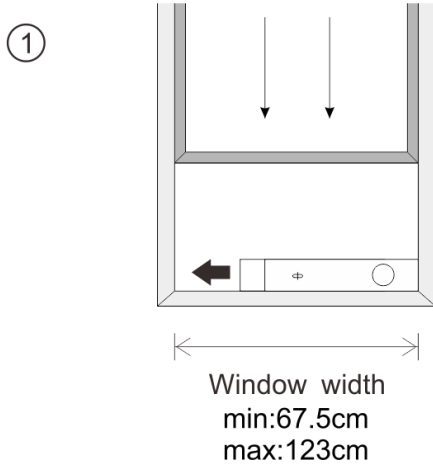

Fig.10
The installation manner of window slider kit is mostly in “horizontal” and “vertical”. As shown Fig.10 and Fig.10a, check the min. and max. size of the window before the installation.
1. Install the window kit on the window (Fig.10, Fig.10a);